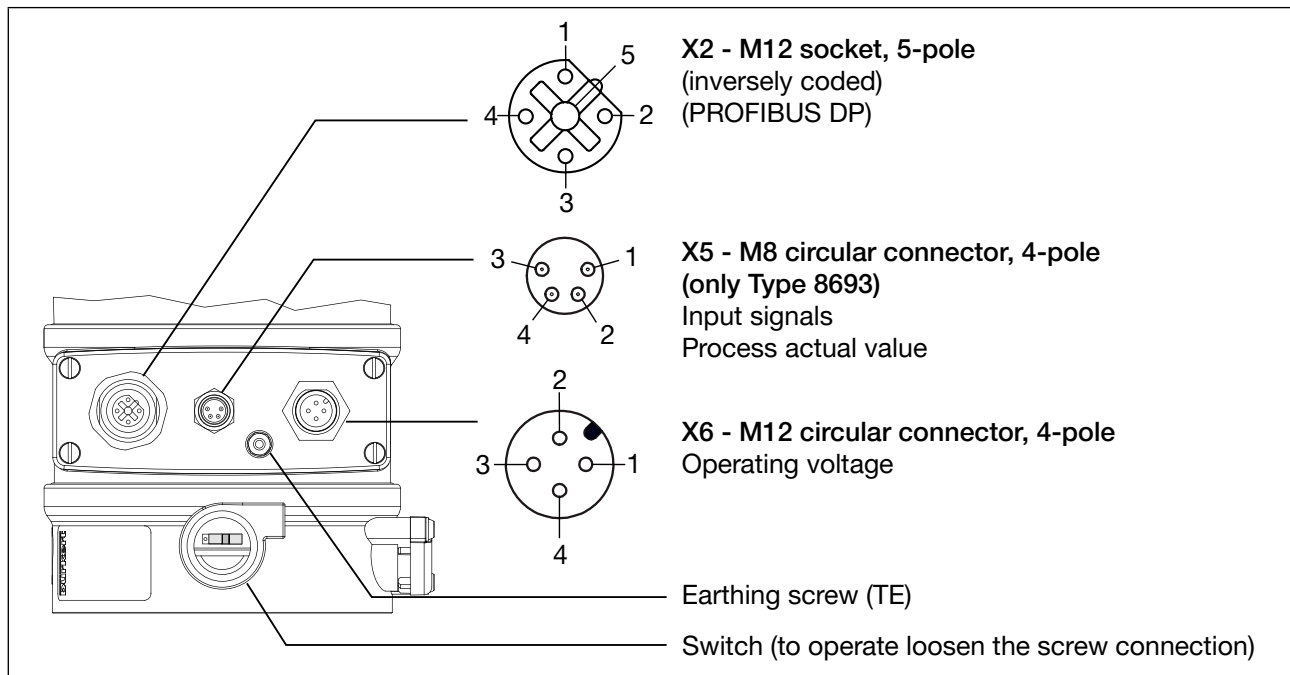

Fig. 125: Electrical connection PROFIBUS DP, Type 8692/8693
On the electrical connection housing is a setscrew with nut for connection of the technical earth. (see "Fig. 125: Electrical connection PROFIBUS DP, Type 8692/8693").
*** The switch is situated under the screw joint (see "Fig. 125: Electrical connection PROFIBUS DP, Type 8692/8693",..).